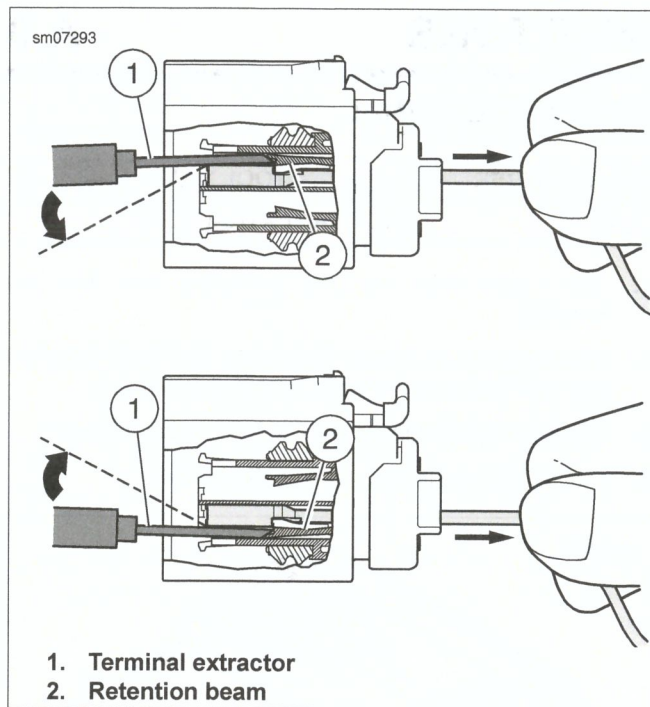

Figure A-31. Removing Terminals: Tyco GET 64 Sealed Connector
2. See Figure A-31. Insert TERMINAL EXTRACTOR (Part No. B-50085) into the cavity next to the terminal.